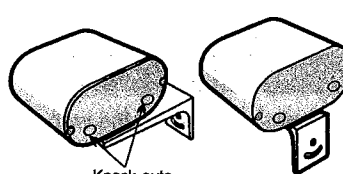

Fig. 4
- 3.) Remove a knock-out from the infrared sensor/transmitter back plate to feed the power wires thru (Refer to Fig. 4).